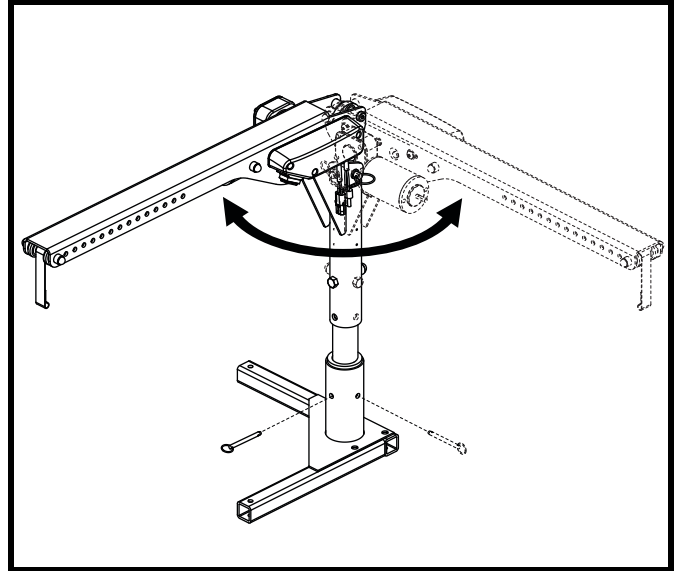

Figure 9. Securing the Boom Arm to Prevent Swinging
Your Silver Boom 250 is equipped with a power switch that enables/disables operation. Press UP to turn the power on; press DOWN to turn the power off. See figure 9.
**NOTE:** The ON/OFF switch also functions as the circuit breaker reset button. See figure 9.